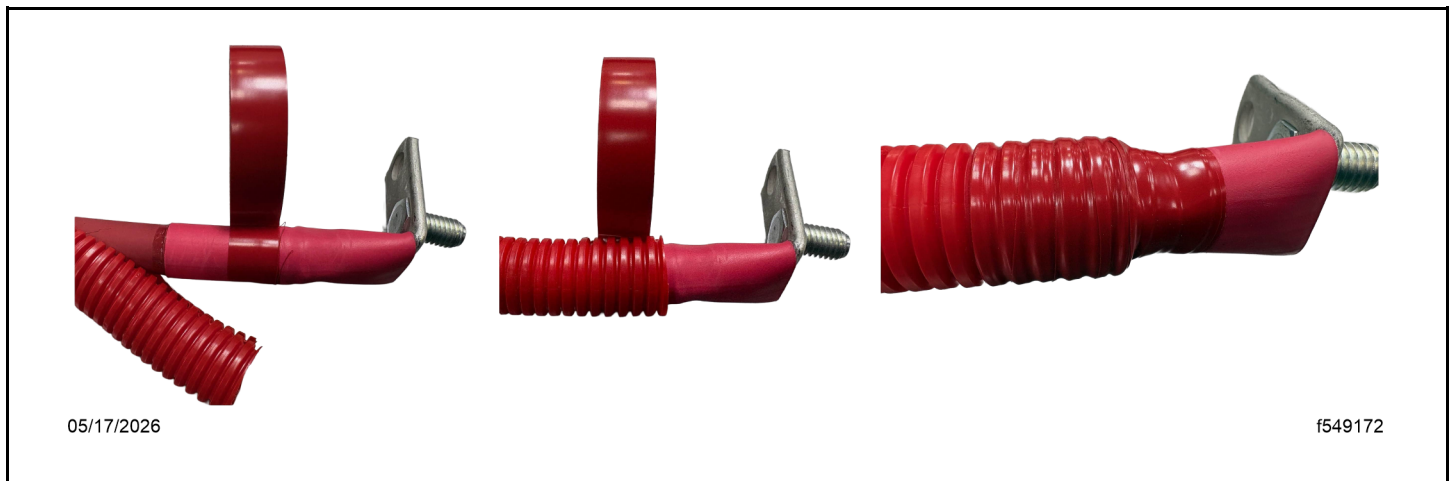

Fig 79, Installing the Convolute Cover
- d. Install the convolute cover by applying red electrical tape to cover the transition from the heat shrink to the convolute cover. See Fig. Fig. 79.